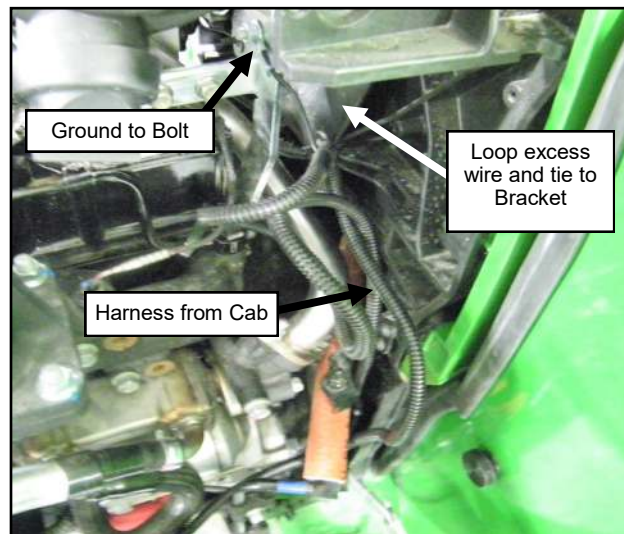

Fig. 16.9 (Wire Harness Ground to Bracket)
16.9 Run the wiring harness from under the floorboard above the loader arm then up the rear left corner of the engine. Be mindful and avoid pinch points and hot surfaces. See Figure 16.9.
16.10 Unbolt the nut and bolt at the back of the engine and re-secure with the ground terminal on. See Figure 16.9. Route the free end of the harness under the hydraulic steering lines toward the front of the engine.